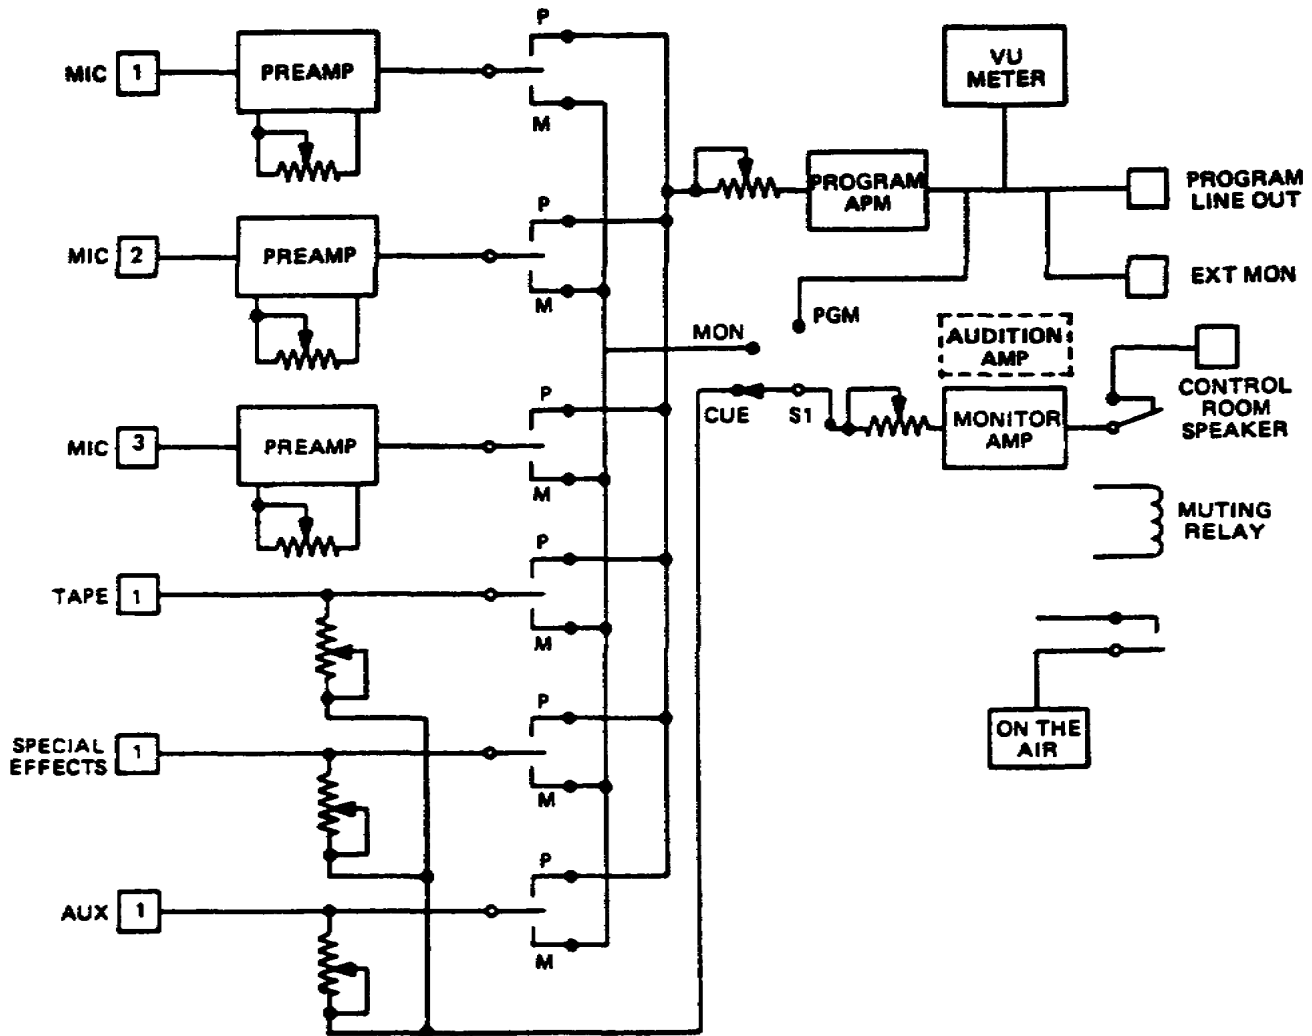

Figure 1-1. Block diagram of a basic audio console
2. Functions. There are many functions which could be listed; however, for our purposes here, we will consider those functions performed by amplifiers, switches, mixers, and monitors. Of course, for the console to carry out its functions, there must be certain auxiliary equipment attached, as indicated by various input and output terminations in Figure 1-1. Most consoles contain their own power supply.
a. You know that audio frequencies range from about 15Hz to 20KHz. Television (TV) equipments that amplify signals for sound reproduction use amplifiers designed for this low-frequency range. It is the task of such amplifiers to strengthen the audio signal and reproduce it faithfully. The dominant requirements are, therefore, gain and fidelity. The three types of audio amplifiers used in the audio console are the preamplifier, driver, and power amplifier. The following is a list of their functions.
d. When microphones are discussed, you will find that the dynamic microphone is determined to have the best fidelity. However, this microphone requires a preamplifier (preamp) due to its low output voltage. Therefore, the audio console has built-in preamplifiers, which gives a sufficient signal level to drive the program and monitor amplifiers. The preamps used in this unit, as seen in Figure 1-1 have external gain controls, which are located on the front of the console along with the other input controls. These controls are actually labeled mixer. The program amplifier is also a multistage amplifier which falls in the class of a driver. This amplifier also has a gain control, which is the master control that enables the operator to adjust for the correct output level, as indicated on the VU meter. Microphones will be discussed in detail in Lesson 2.
(1) The tape input is an example of a single function. When the switch is in either the program or monitor position, the only function is applying the tape signal to the respective amplifier. The microphone selector switches use an additional set of contacts to control the muting relay which removes the monitor speaker from the circuit. Also, the muting relay controls the on-the-air alert light.
(2) There are other switches, such as S1 which are used to select the various circuits to be monitored. There is a switch, not shown in Figure 1-1 which enables the operator to select what is wished to be monitored on the phone jack. It should be mentioned that Figure 1-1 is a block diagram of a simple console; the more elaborate control consoles have many more switches.
g. The console incorporates a VU meter, which is used to monitor the signal level out to the line and the external monitor. When you are using the mixer controls, the VU meter is very important for adjusting and maintaining the correct level out (fig 1-1).
(1) The headset monitor (not shown on the block diagram fig 1-1) is also used for adjusting balance; however, since the operator's sense of volume is not good enough to set the level out, the VU meter is needed.
(2) The various speaker connections also serve as monitors in the control room at remote locations and other miscellaneous installations. Like a headset, the speaker serves to give you an idea of the output level, but is not exact enough when adjusting for the correct level while monitoring tapes or live programs. We should mention that some of the control consoles have selective scale adjustments for the meters, whereas others require modification for the pad circuit to change the meter scale.
h. Again looking at Figure 1-1, you see there are a number of possible signal paths. In this diagram (fig 1-1), there are a total of six inputs and three outputs. Remember, this is a simple setup. There are many more inputs and outputs in the more elaborate setups that have talkback circuits incorporated for classroom work.
(1) In the diagram illustrated (fig 1-1), start with microphone No. 1, trace a signal path through the preamplifier, level selector switch (program P position), program amplifier, VU meter, line out pad or extension monitor pad to the output. If switch S1 was in the PGM position, the output from the program amplifier would also be coupled to the monitor amplifier and the control room speaker terminal.
(2) As shown in the diagram (fig 1-1), all of the input signals can be connected to the program amplifier and monitor amplifier at one time. Let us suppose you have a studio program that requires the use of all the microphones and also requires specific sound effects which are recorded on tape. In this case, you must use the cue position; a signal is fed to the monitor amplifier. At the right moment, you use the selector switch to send the signal to the program line. Thus the tape input is mixed into and becomes part of the program.
e. Since the microphone is the signal source in an audio system, it can also be the source of troubles. The microphone in most all instances requires a preamplifier as indicated on the block diagram (fig 1-1). There are many troubles that are attributable to the microphone itself, such as broken cords, loose connections, and corroded terminals--all of which could cause weak or erratic output. This is in addition to any other internal damage to the microphone; and, of course, any of these symptoms could be localized to the microphone by substitution of a known good microphone.
(1) If the trouble is in the preamplifier, then of course it would be a matter of checking tubes and other items or perhaps circuit tracing the preamplifier.
(2) However, a weak signal would usually be caused by a weak tube in the circuit. Other possibilities, although less probable, are low B+, low filaments, components value change, and other minor items.